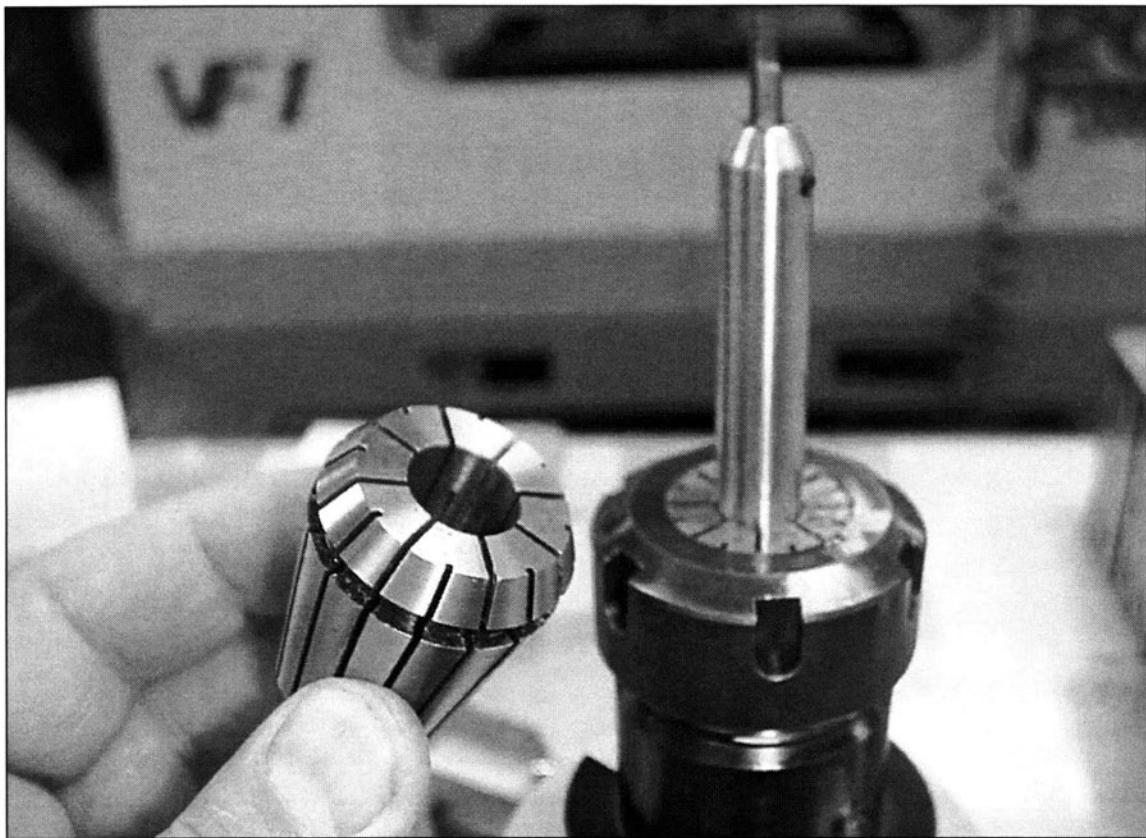

FIGURE 15-5 ER collets are versatile because they have a .030" tolerance range which allows them to be used to hold various diameter cutters and drill bits.
23. *Choose a collet system with a large tolerance window. (See Fig. 15-5)*